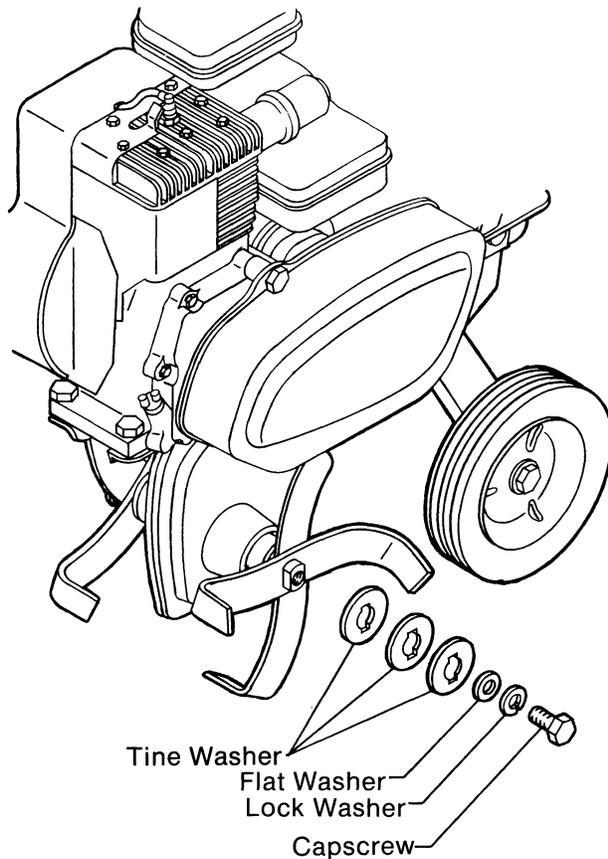

FIG. 27
2. The inner tines can now be secured to the tine shaft. See (Fig. 27) for the correct sequence of parts. **NOTE:** Use the hardware removed from the outer tines along with the additional tine washers and capscrews mentioned above. Be sure capscrews are tightened securely.